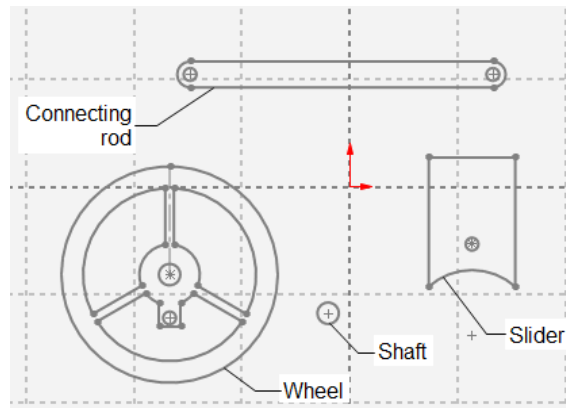

Figure 2-43 The blocks inserted in the Layout environment
- Choose the **Insert Block** button from the **Blocks** toolbar and insert the Shaft, Wheel, Connecting rod, and Slider in the layout environment, as shown in Figure 2-43.